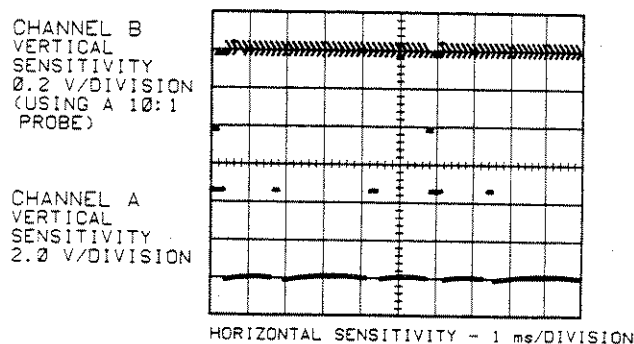

Figure 8-14. Z-AXIS (Bottom) and Trigger (Top) Drive Signals
3. Turn on the Noise Figure Meter and verify that the signals are as shown in Figure 8-14.